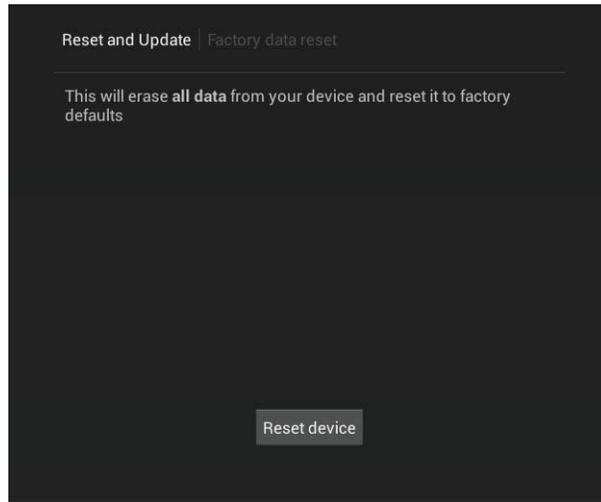

FIG. 22 Factory Data Reset window
1. From the *Reset & Update* menu, select *Factory Data Reset* to open the *Factory Data Reset* window (FIG. 22).